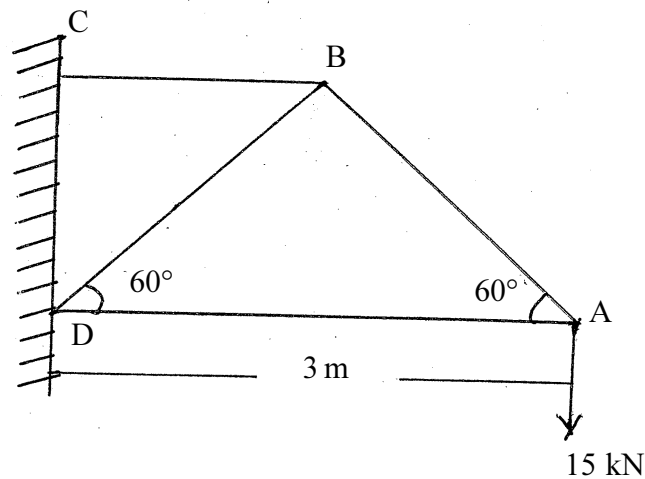

Figure 2
- f) A cantilever truss of 3 m span is loaded as shown in Figure 2. Find the forces in the members AB, BC, BD and AD using method of joints. 4